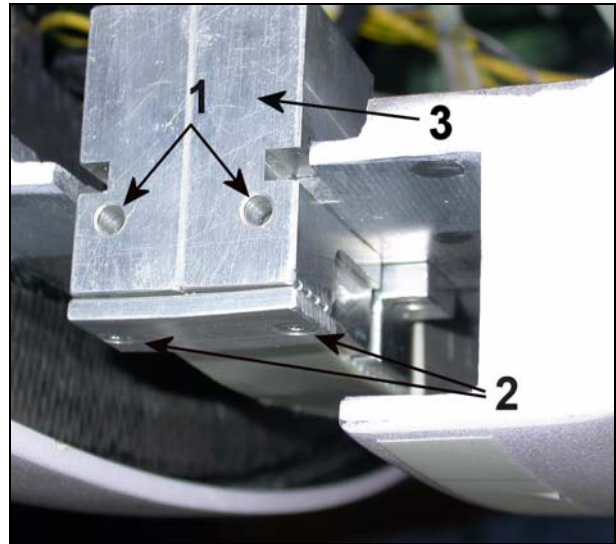

Fig. 16
- Loosen the two mounting screws (2/Fig. 16) of the clamping plate from the cable on the image intensifier side. The toothed belt is released.
- Insert the clamping piece (3/Fig. 16) in the C-arm.
- Fasten the toothed belt with the clamping plate and the screws (2/Fig. 16). The belt's teeth are positioned in the slots of the clamping piece.
- Increase the toothed belt tension using the tensioning screws (1/Fig. 16). From the orbital center position move the C-arm $\pm 45^\circ$ several times to eliminate any play of the toothed belt. If necessary, increase the tension of the toothed belt in the slots of the clamping piece, and reattach it.